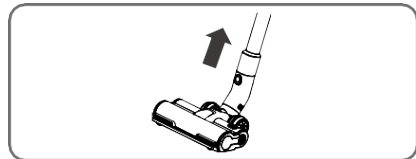

Figure 4
- To remove the brush, hold it with one hand and press the button with the other hand while pulling the brush. (Figure 4)